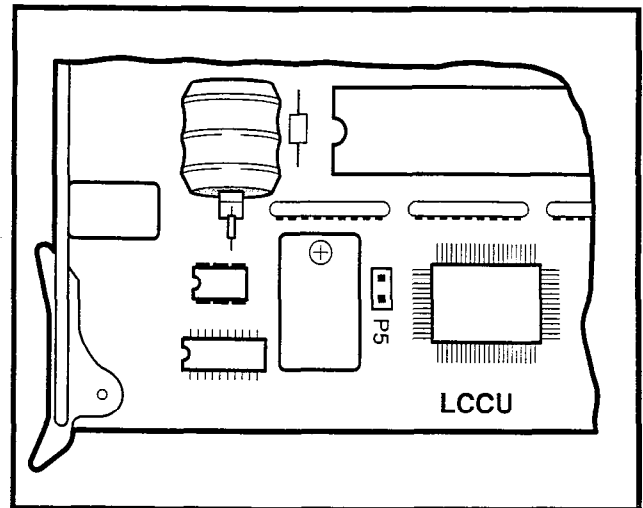

FIGURE 4-13—LCCU STRAPPING
3.11 Install the LCCU in the CCU slot of the basic cabinet. There are no straps on this PCB; however, there is a plug (P5). Verify that the connection plug is in place in accordance with Figure 4-13.